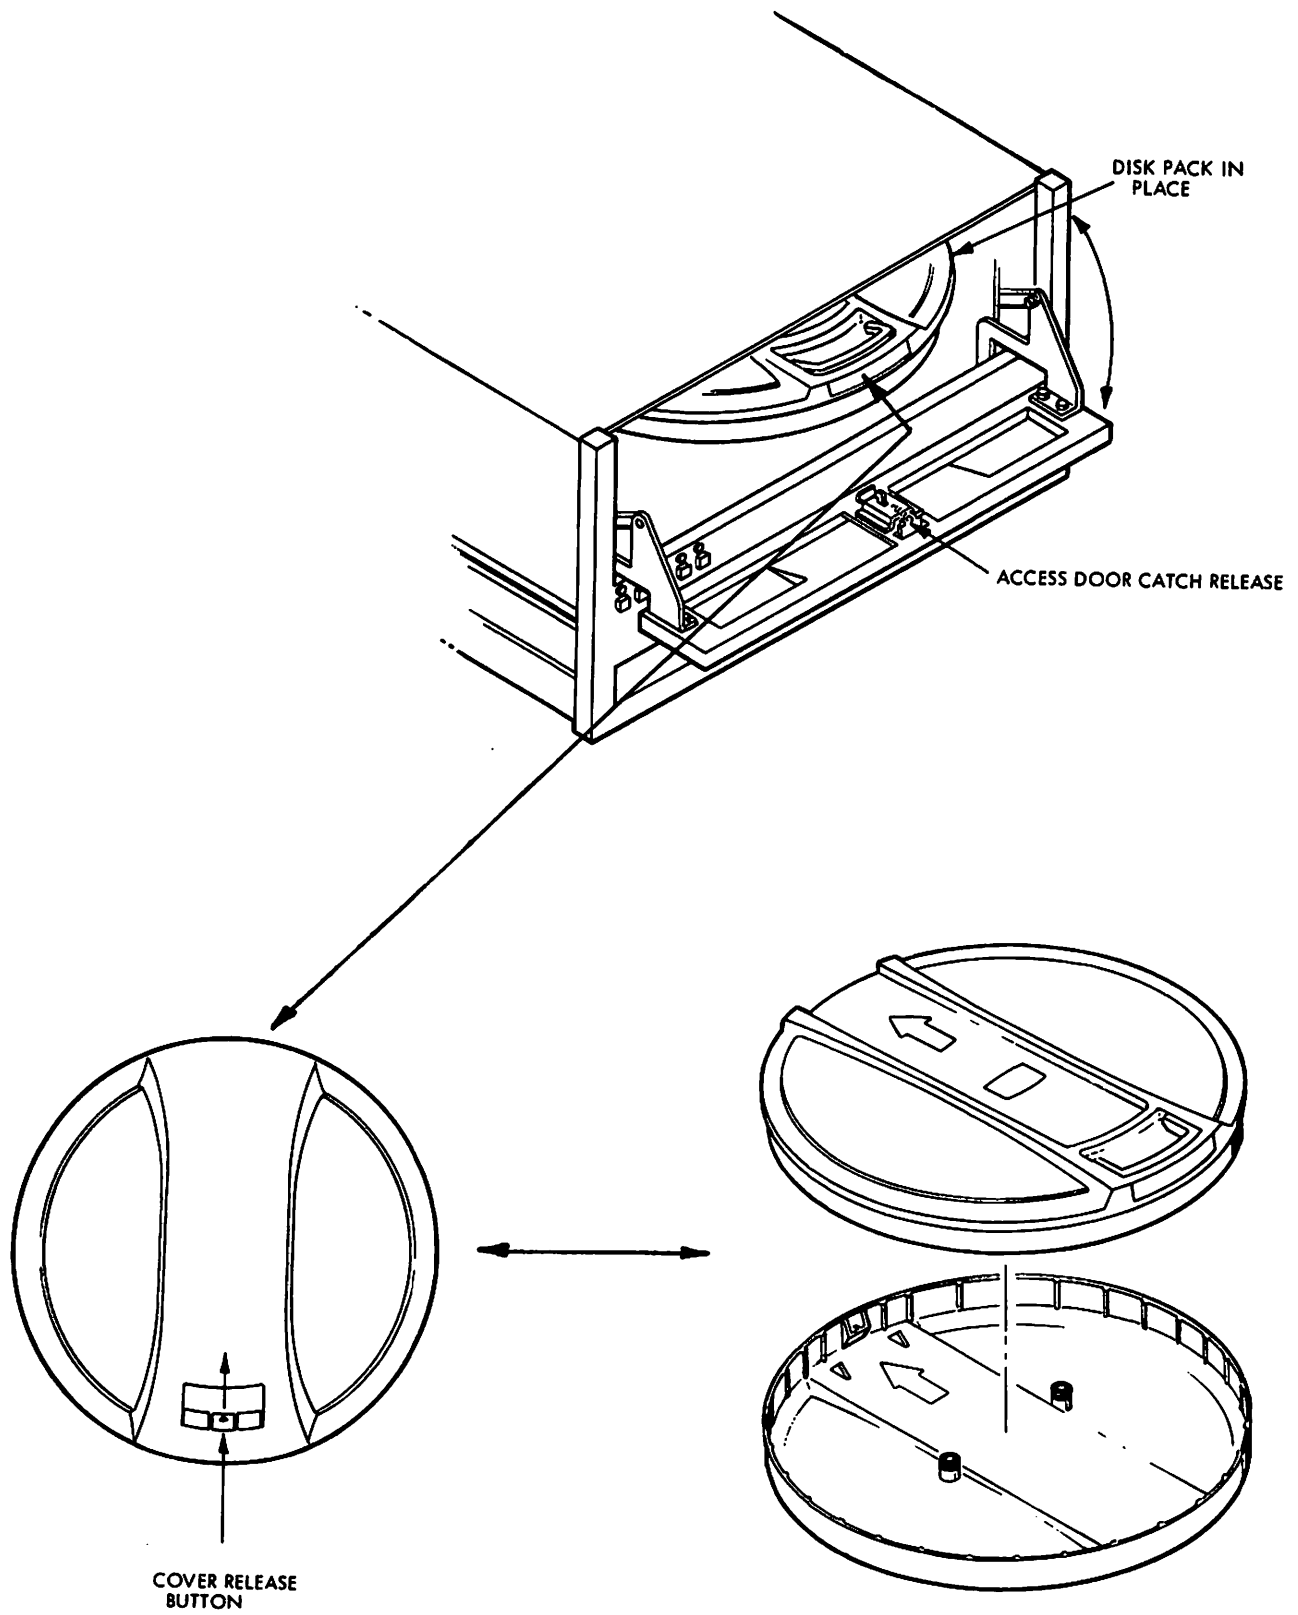

FIGURE 5-2 DISK CARTRIDGE INSTALLATION/REMOVAL
1. Release latch under lip of access door that is recessed and pull down access door. See figure 5-2
Refer to figure 5-2 for the following procedure.